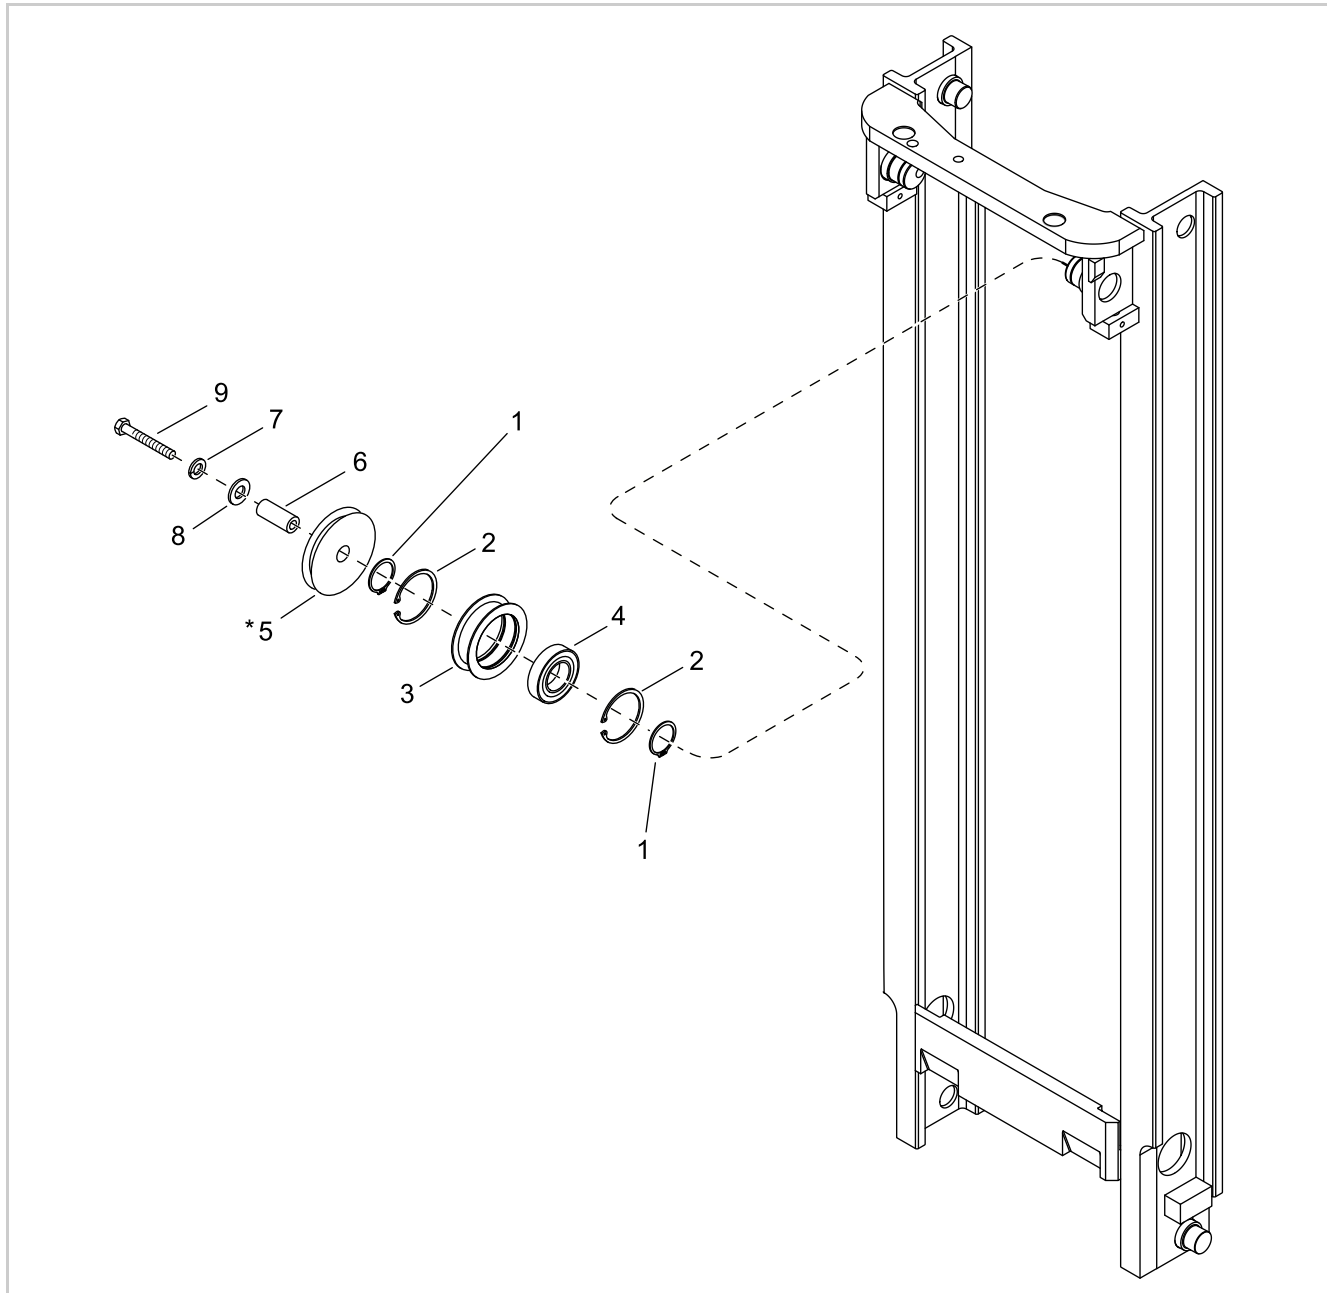

Fig. 21 (25467)
6. Install the chain pulleys (1 through 4, Figure 21) to the intermediate mast.